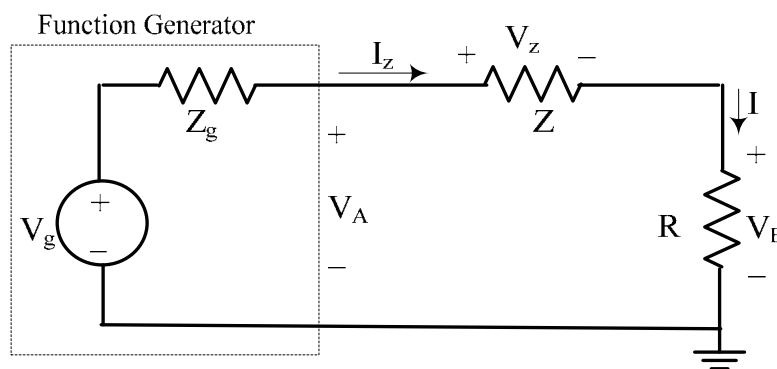

Figure. 4.6
**IMPEDANCE MEASUREMENT:** The measurement of impedance  $Z$  is frequently required in practice. Although  $Z (= V_z/I_z)$  can be measured using various techniques, a direct method using measurements of the magnitude and phase of the associated voltage and current phasors is instructive. Figure 4.6 shows a circuit in which an unknown impedance  $Z$  is to be found. The circuit consists of a sinusoidal function generator connected to the series combination of the impedance  $Z$  with a known resistance  $R$ . The voltage across the series combination of  $Z$  and  $R$  is  $V_A$  and the voltage across  $R$  is  $V_B$ . The voltage across  $Z$  is then given by  $V_z = V_A - V_B$ .